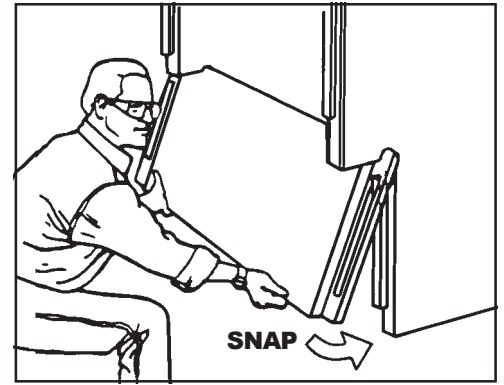
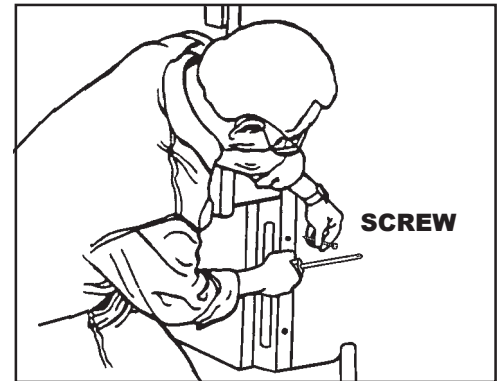

Figure 3
Figure 4
Step sections have open slots at each end which snap onto the protruding tabs located on the side panels. Push the step into the notches above the tabs (both sides at the same time), and force the step slots over the panel tabs until the step "snaps" into place (see Figure 3). Use (2) 2-1/2" long plated deck screws (four per step panel) to cross-pin the steps to the side panels at each step/side panel connection (see Figure 4) (**Note:** Screws not supplied with window well). Reference the pre-marked locations for cross pinning. This will ensure that the step will not detach during backfilling.